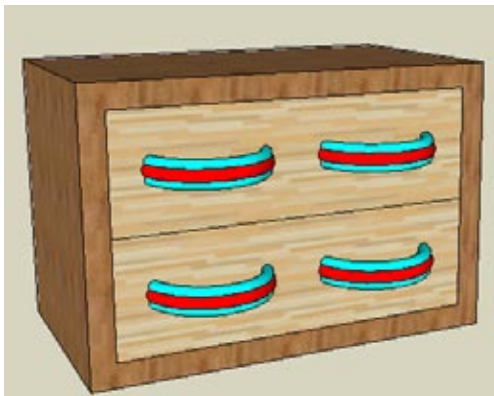

Figure 3-49
5. Now that the holes are made, you can replace the handles (Figure 3-49). This is easy to do now because the handle component has edges where it meets the holes.